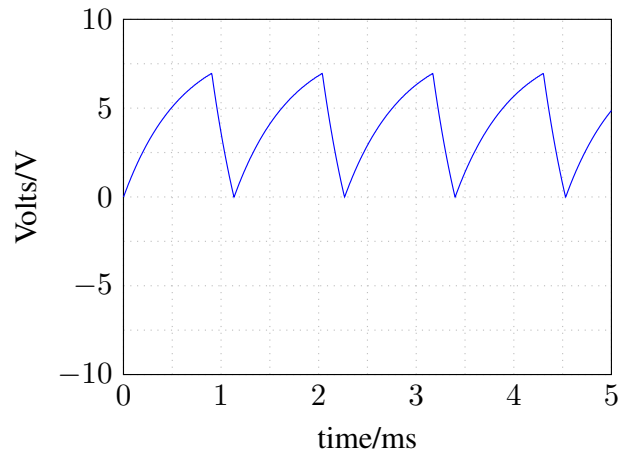

Fig. 59: Sawtooth observed on OSC of the slew/freeze board.
1. Connect the probe to **OSC**. The signal as shown in Fig. 59 should be observed. The bottom of the signal should be near 0 V.